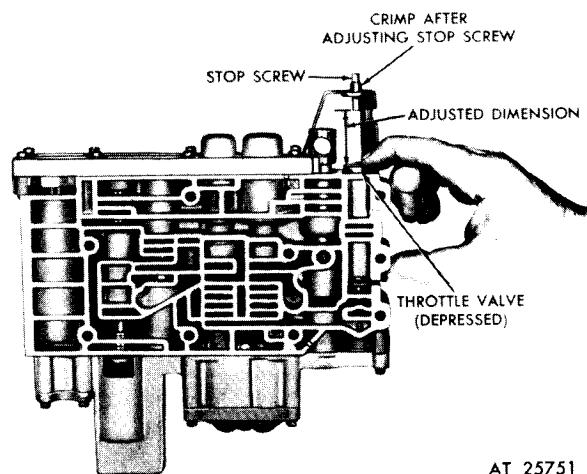

Figure 5-146. Throttle valve stop screw adjustment.
b. Throttle Linkage Underscored. There are two adjustments which must be made for throttle linkage. One is internal and must be made before the oil pan is installed. The other is external and is made after instilling the transmission in the vehicle. The internal adjustment concerns adjustment and locking of the headless screw in the throttle valve retainer at the rear of control valve assembly (fig. 5-146).
(1) On original control valve assembly, measure distance between rear of throttle valve (depressed until it bottoms) and front of throttle valve stop screw. Record this dimension (fig. 5-146).
(2) On new control valve assembly, adjust stop screw until distance between rear of depressed throttle valve and front of stop screw corresponds exactly with measurement made in (1) above.
(3) Lock stop screw by crimping threaded portion of retainer against flat side of stop screw (fig. 5-146).
(4) The external adjustment concerns the linkage connecting the accelerator pedal, engine fuel control, and transmission throttle lever. This adjustment is extremely important because it matches the transmission function to the engine